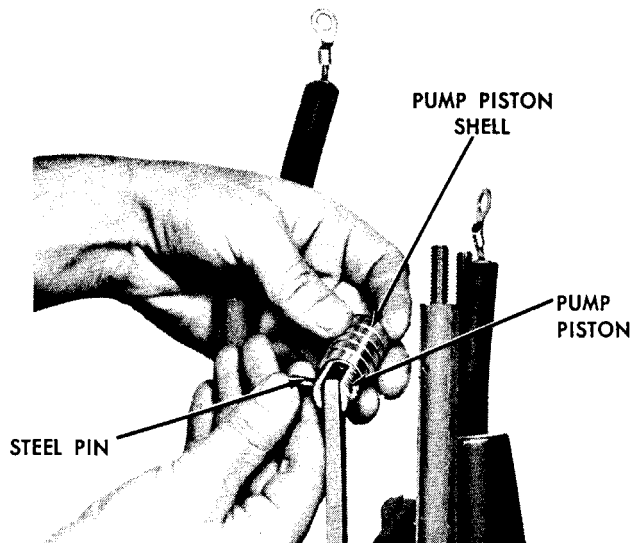

Figure 19. Pushing out steel pin
2. Push out steel pin as shown in Figure 19.